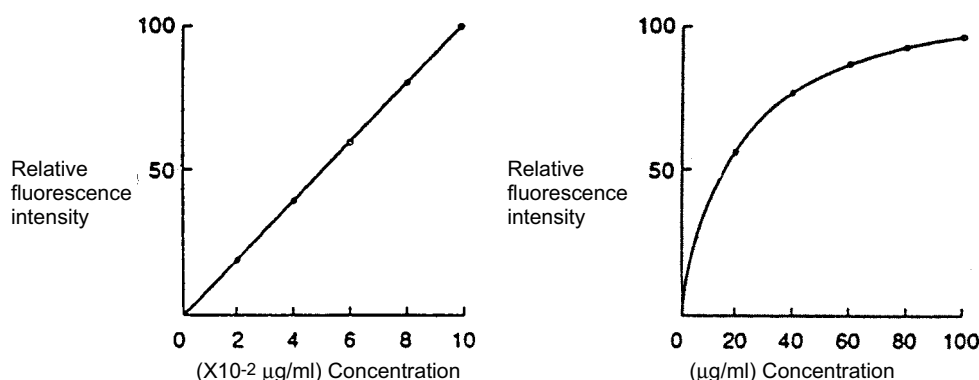

Fig. 10.4 Working lines of a diaminostilbene aqueous solution
Hence, the calibration curve that is proportional to the concentration C is straight. As the concentration of the sample rises, however, the calibration curve would be curved as explained in (5), "High concentration samples". Fig. 10.4 shows calibration curve observed with a diaminostilbene aqueous solution.